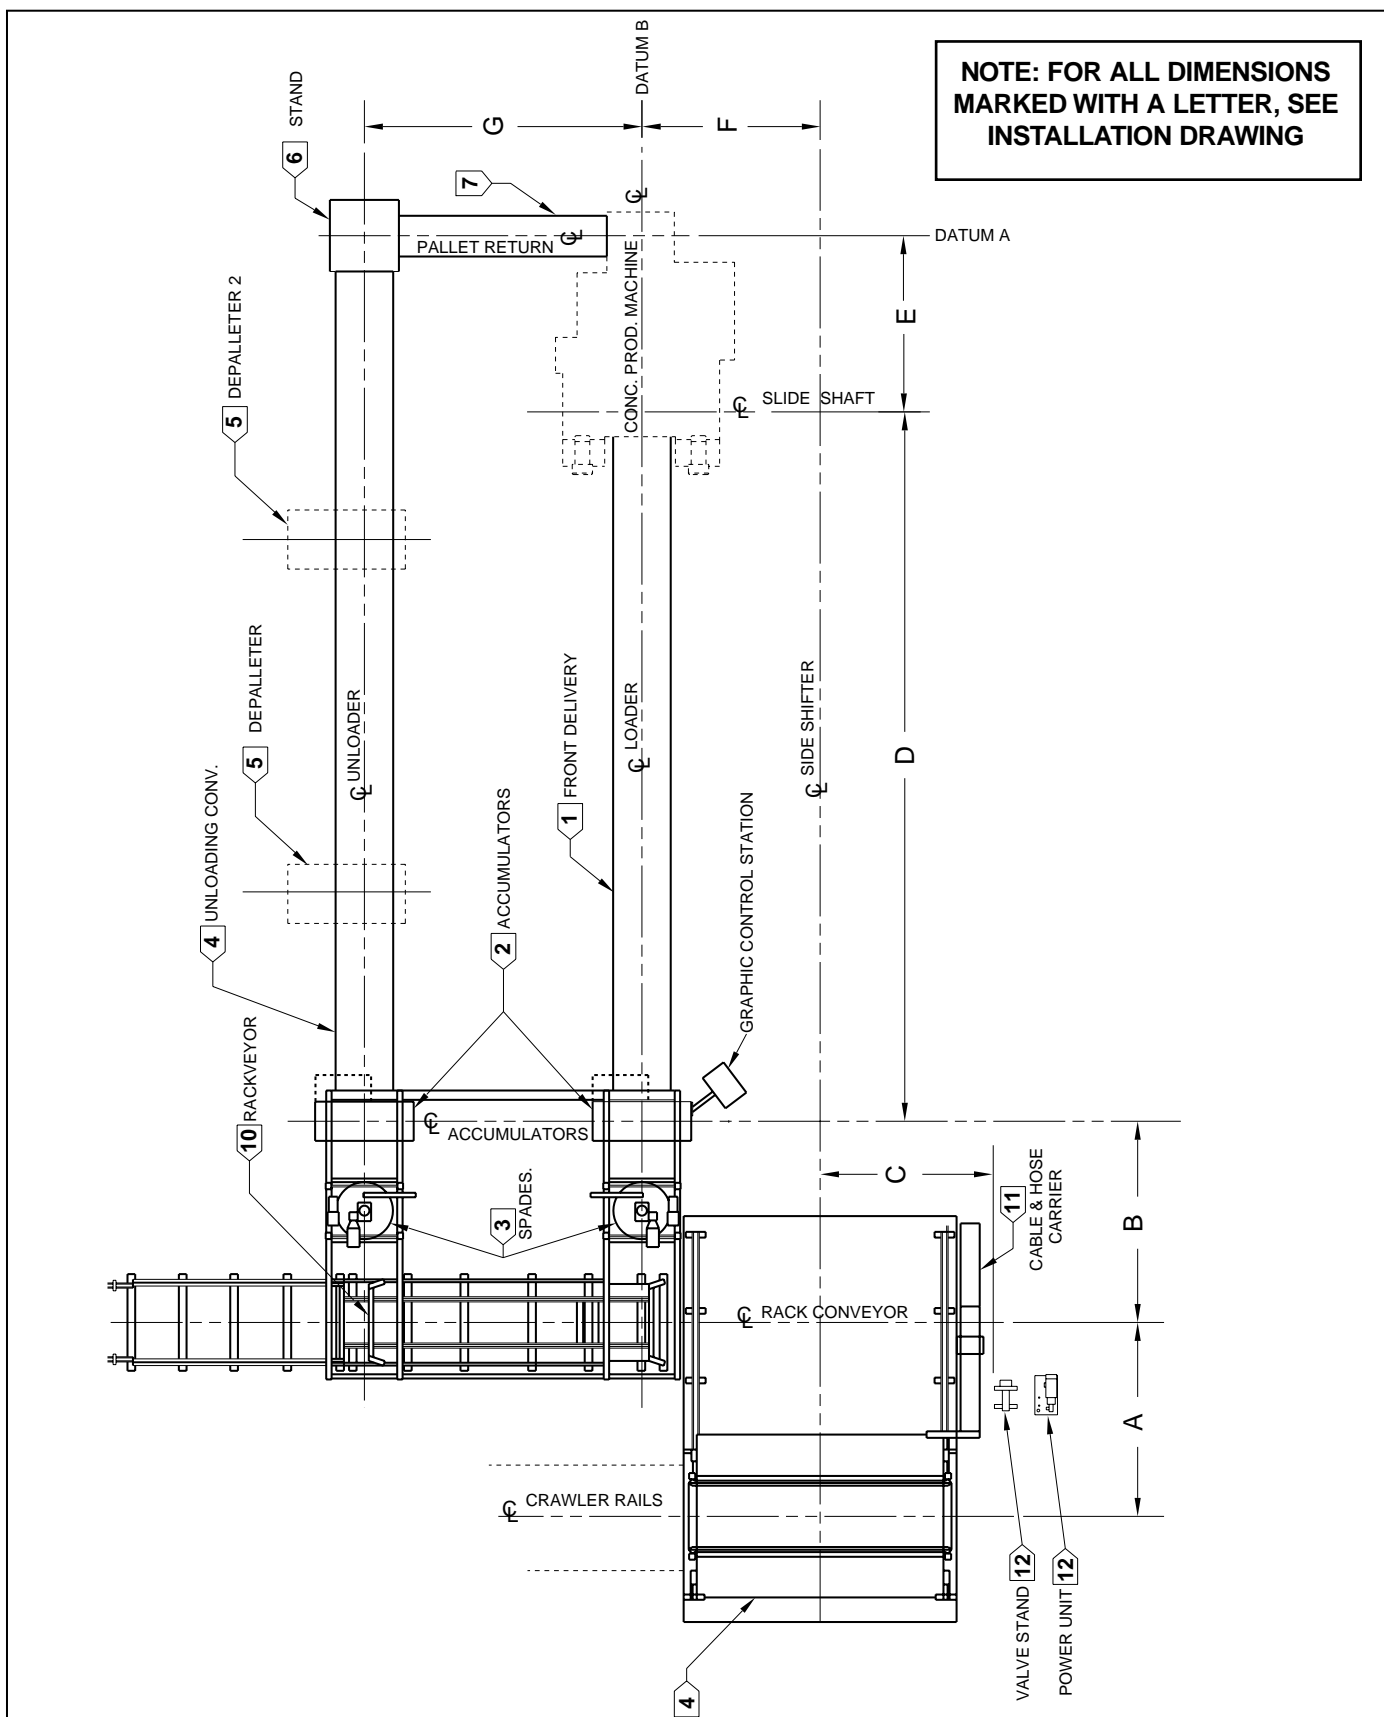

Figure 3.31 OVERALL INSTALLATION DRAWING (TOP VIEW).
Locate Rackveyor power unit and valve stand (item 12 in figure 3.31). Secure to floor with 1/2" X 3 3/4" L. [12.7mm X 95.25mm L.] anchor studs, 1/2" lockwasher and 1/2" hex. nut.
3.9.1.2 Position conveyor in line with Concrete Product Machine (see item 1 in figure 3.31).
3.9.2.2 Position conveyor in line with unloader center line (see item 4 in figure 3.31).
3.9.3.1 Locate pallet transfer stand (item 4 in figure 3.31). on center line of unloader and center line of pallet return.
3.9.5.1 Assemble pallet return section of conveyor (item 7 in figure 3.31) and locate on center line of pallet magazine of Concrete Product Machine.